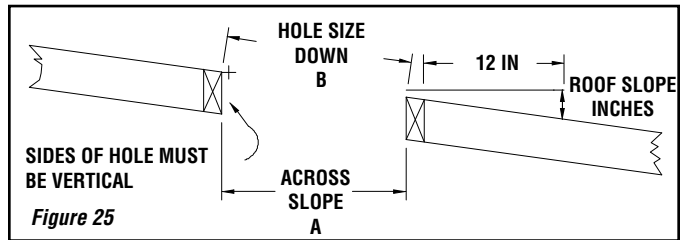

Figure 25
**Step 1.** Situate the chimney in a convenient location as near as possible to the appliance outlet. Cut and frame a hole in the roof for the support. The sides of this hole must be vertical (figure 25) (see table 3 on page 3).